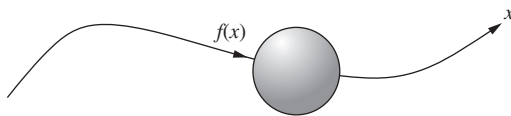

Figure P9.4 A particle moving along a curved path.
- 9-4.** A particle is accelerated along a curved path of length l under the action of an applied force $f(x)$ as shown in Fig. P9.4. The total work done on the particle is
- 9-5.** A particle is accelerated along a curved path of length $l = 4.0$ m under the action of an applied force $f(x)$ as shown in Fig. P9.4. The total work done on the particle is